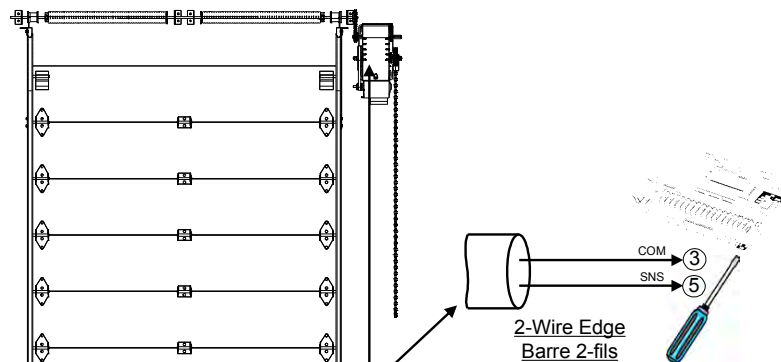

Figure 15 - Electric Reversing Edge
3. Use a coil cord or take-up reel to connect the sensing edge wires to the operator terminals. Install electric wires according to Figure 15.